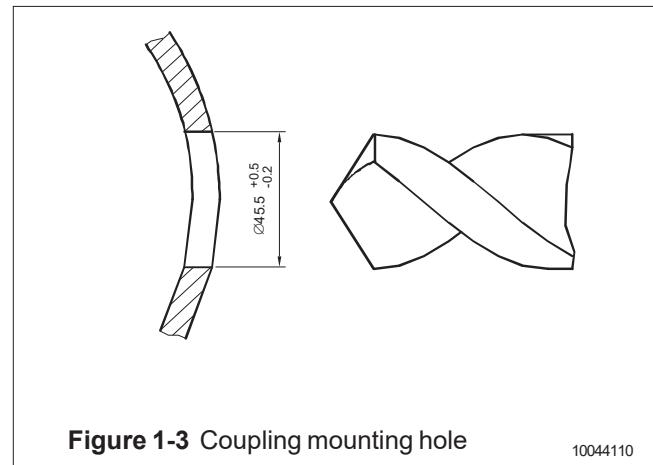

Figure 1-3 Coupling mounting hole
- Make a Ø 45.5 mm (+0.5/-0.2 mm) hole in the tank wall or pipe, as shown in Figure 1-3.